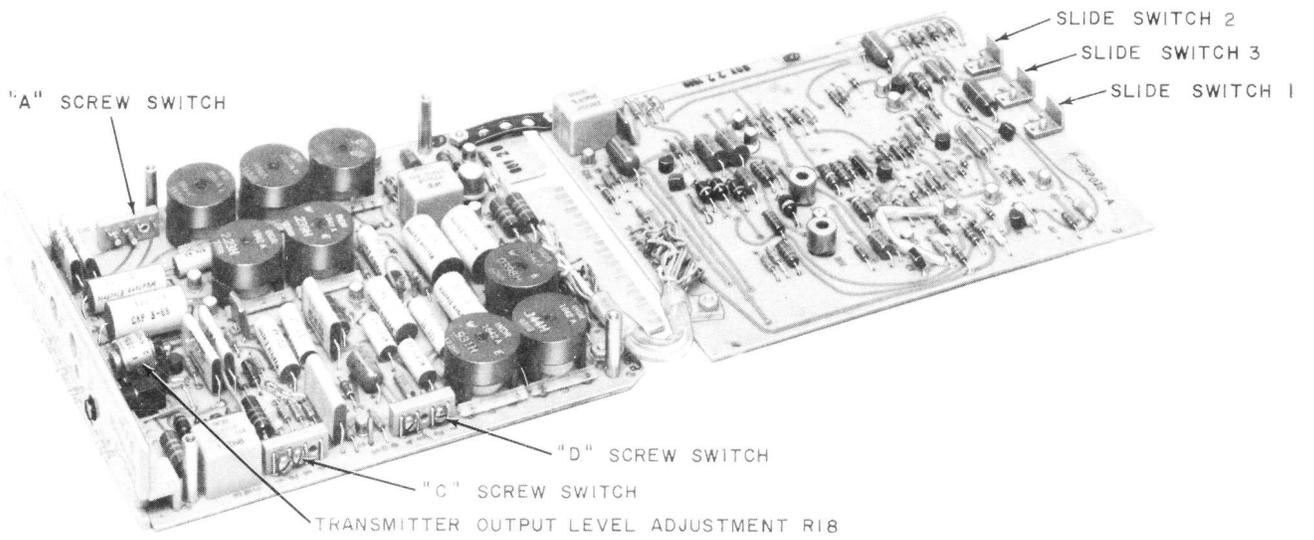

Fig. 6—Data Set 108D-L1 Showing Location of Switches
2.01 Data sets 108D-L1 and 108E-L1 each consist of two printed wiring circuit boards mounted together in piggyback fashion (Fig. 6 and 7). The piggyback arrangement provides a narrower faceplate than DS 108A or 108C, and occupies only two-thirds of the space necessary for DS 108A or 108C. Data sets 108D-L1 and 108E-L1 are each approximately 5-1/2 inches high, 7-1/5 inches deep, 1-1/8 inches wide, and weigh approximately 2 pounds.
option Y must be installed in DSs 108D-L1 and 108E-L1. The loop facility must be connected to the terminals mating with card terminals 15 and 16 (R and T) and the proper hybrid network option installed. Options Y and Z are under control of screw switch A (Fig. 6 and 7). The A screw switch setting for each option is listed in Table B.
4.06 The transmission level of the DSs 108D-L1 and 108E-L1 are continuously adjustable over a range (see Table A) to allow compensations to be made for differences in local loop loss. Potentiometer R18 (Fig. 6 and 7) adjusts the output power level through a range of -6 to -26 dBm for DS 108D-L1 or 0 to -26 dBm for DS 108E by continuous adjustment into a 600-ohm loop 4-wire circuit or a 900-ohm loop 2-wire circuit.